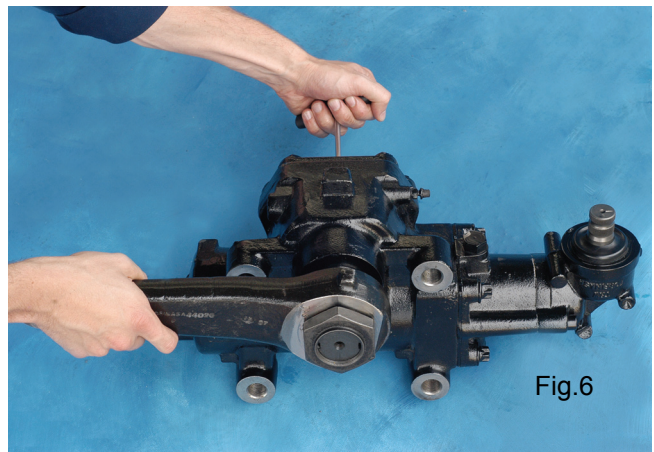

Fig.6
To adjust, slowly turn the shaft adjusting screw clockwise until no lash is felt at the pitman arm. (Use no more than 14 Nm of torque). From this no lash position, turn screw clockwise an additional 1/8 to 1/4 of a turn. Hold the adjusting screw in place, and tighten the jam nut (45). Final torque: as per Torque Chart (Fig.6).